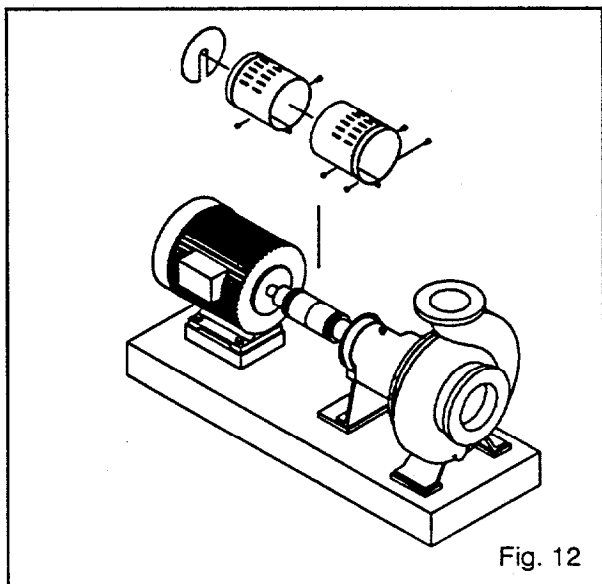

Fig. 12
2. Install coupling guard (Fig. 12). Refer to Coupling Guard Installation and Disassembly Section (Appendix II).